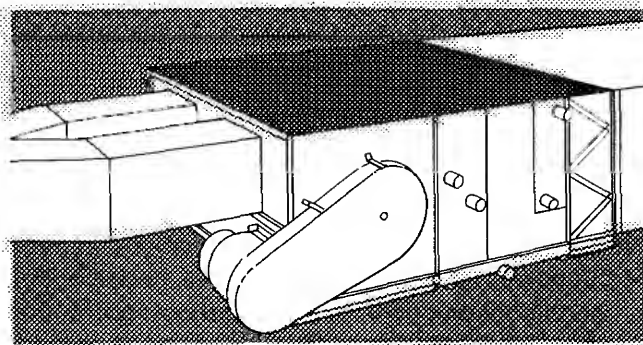
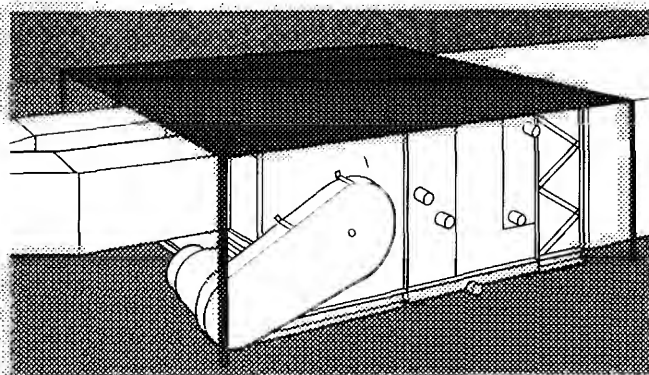

Fig. 12 — Crowned-Type Protection Cover — Field-Supplied
Fig. 13 — Shed-Type Protection Cover — Field-Supplied
3. Install a crowned waterproof cover on top of unit to prevent water from collecting or leaking into unit per Fig. 12. A shed-type cover (Fig. 13) can be used as an alternate.